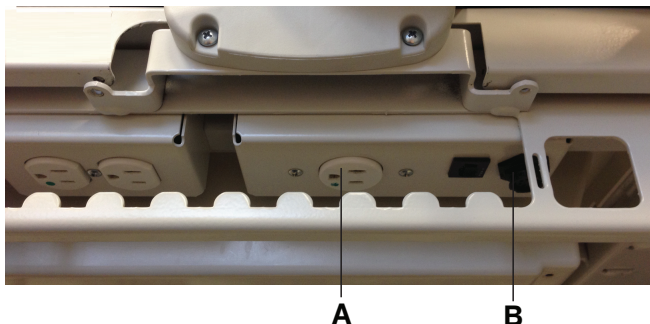

Figure 36 – Auxiliary mattress connector outlet
2. Connect the integration cable from the support surface to the auxiliary mattress connector (B) (Figure 36).
3. Plug the support surface power cord into the auxiliary mattress connector outlet (A).